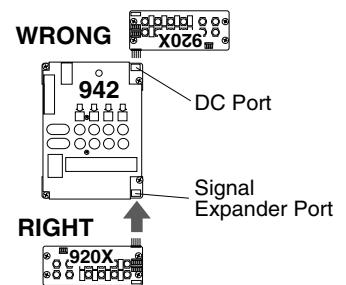

Figure 20. Audio signal expander connection
2. Connect an audio signal expander (if any) such as 920X or 940X to its respective main switching module as shown in Figure 20. It is critical that the signal expanders be connected to the header port on the main module labeled “Expansion.” DO NOT plug an audio signal expander module to the header port labeled “DC Expansion.”